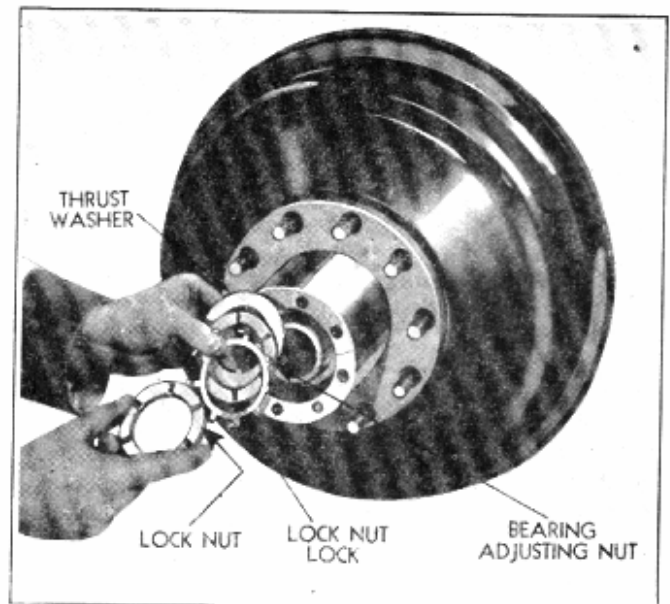

Fig. 6—Installing Thrust Washer, Adjusting Nut, Lock Nut and Lock Nut Lock
6. Install the Thrust Washer and Adjusting Nut, Fig. 6.